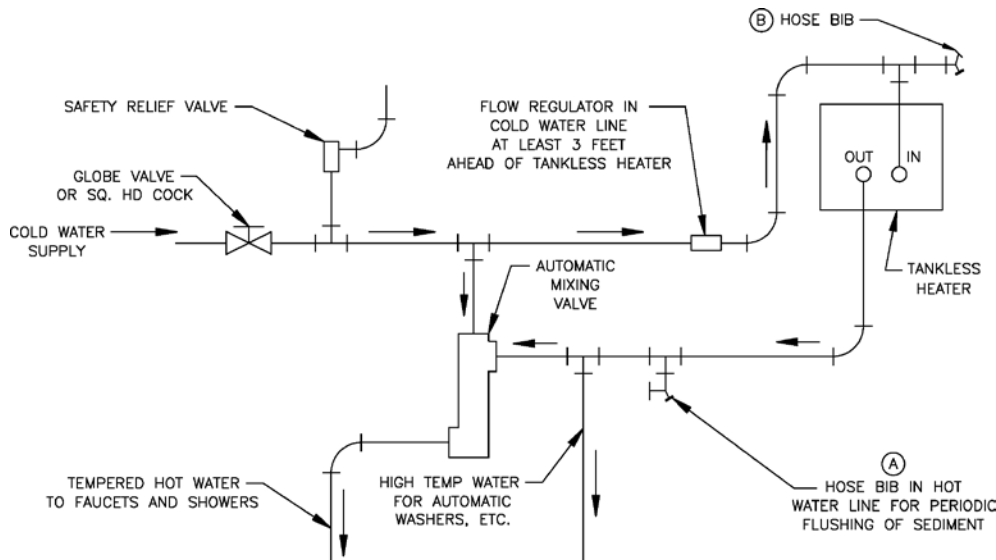

Figure 7: Schematic Tankless Heater Piping
- G. **CONNECT TANKLESS HEATER PIPING AS SHOWN IN FIGURE 7.** See Table 3 for Tankless Heater Rating.
possible by piping the hot water from the heater prior to entering the mixing valve. The mixing valve should be "trapped" by installing it below the cold water inlet to heater to prevent lime formation in the valve. Refer to Figure 7.